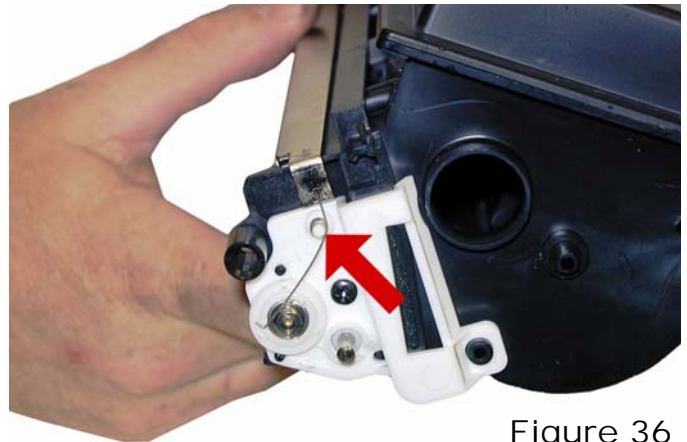

Figure 36
32) On the opposite side of the hopper, release and remove the small spring. See **Figure 36**.